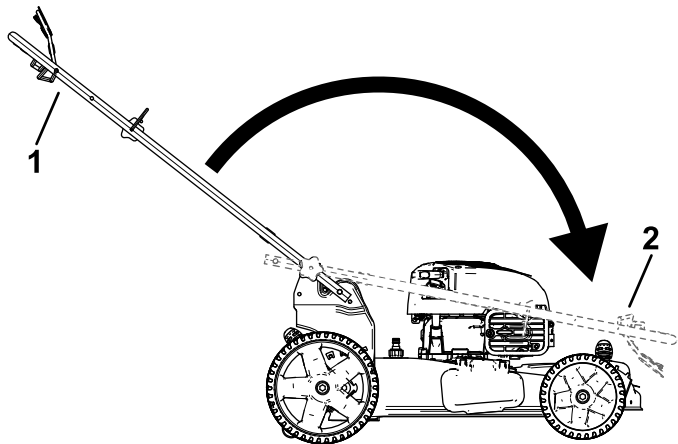

Figure 24
2. Fold the handle by rotating it forward (Figure 24).